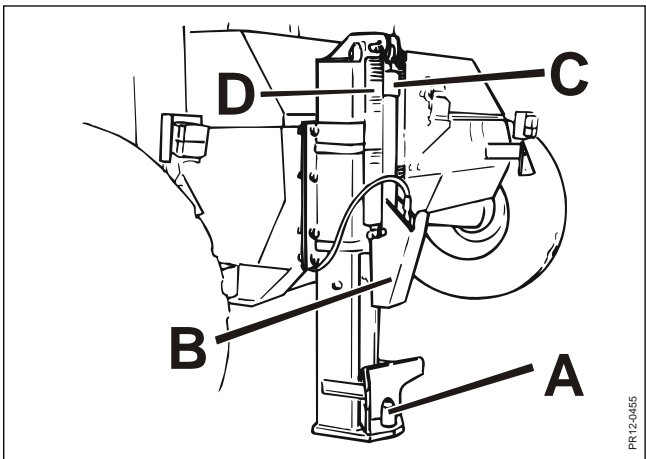

Fig. 3-3
**Fig. 3-3** The hitch **B** is raised hydraulically by a single-acting cylinder **C**, and 2 tension springs **D** pull the hook down when pressure is relieved from the cylinder.
**Fig. 3-3** For connection of the trailer the machine must be reversed to the drawbar of the trailer. The hitch hook **A** must be lowered and the hitch eye of the trailer is caught by the hitch hook.